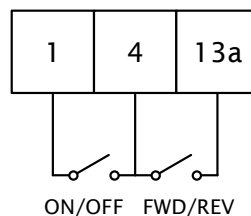

Figure 6.10: Reversing Method 1
7. One method to implement a reversing motor is shown in Figure 6.10. Enable reverse rotation by setting parameter P112 *Rotation* to 1 = *Forward and Reverse*, and enable input 13a by setting P121 to *Reverse Rotation*, then wire a SPST Reverse switch between TB-13a and TB 4. Test for correct functioning.